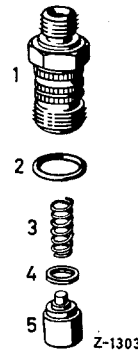

Fig. 00-6/14
6. Unscrew the fuel tank (1) and the overflow tube (4) (see Figure 00-6/10).
7. Unscrew pipe connection nipple (4), install pressure valve (2) and tension spring (3) (see Figure 00-6/9). Screw in pipe connection nipple again and **tighten with a torque of $4.5 + 0.5$ mkg ($32.5 + 3.6$ ft. lb.)**. To guarantee perfect seat of sealing ring, **loosen pipe connection again and tighten with $4.5 + 0.5$ mkg for the second time, loosen for the third time and tighten again with $4.5 + 0.5$ mkg**. Attach clamping jaw lock between pipe connections; in doing so, tighten attaching bolts with a torque of 0.9 mkg (6.5 ft. lb.) (too much torque on the low or high pressure elements may cause leaks or distortions of the injection pump casing).
R 1/2 and R 1/24, respectively. Check rubber seal ring (2) for damage (see Figure 00-6/14).
Additionally, it should be mentioned that the pressure valve holder (5) with pressure valve, seal ring (4) and pipe connections (1) of the reinforced injection pumps PES 4 M ... R 3, RS 3, R 4 and RS 14 are not interchangeable with those of injection pumps PES 4 M R 1, R 1/2 and R 1/24 (see Figure 00-6/14).